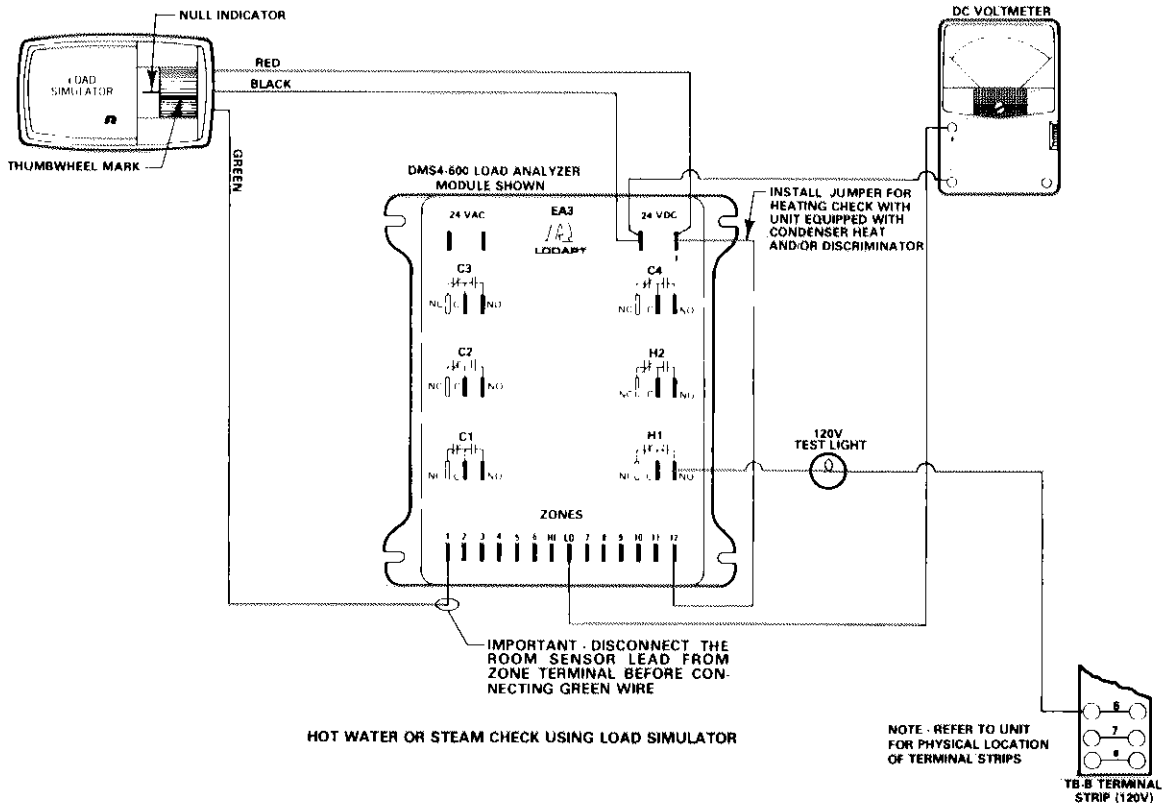

FIGURE 54
- 1 - If the unit is equipped with condenser heat and/or discriminator, install a jumper between the 24 VDC (+) terminal and any zone terminal to provide a cooling demand. See Figure 54.